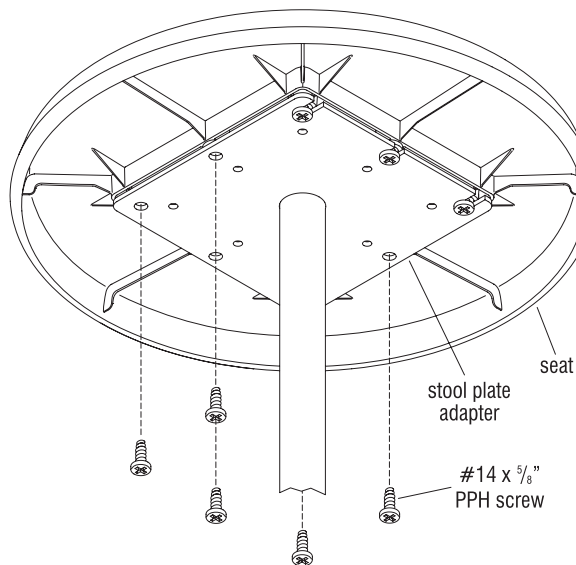

Figure 5
11. Slide plate adapter into place and align vacant seat mounting holes with stool plate holes (Figure 5).
12. Install five #14 x 5/8" screws into the vacant attachment holes and torque to 15-20 in/lbs. Next, twist down the three screws on the slotted hole side and torque them to 15-20 in/lbs (Figure 5).